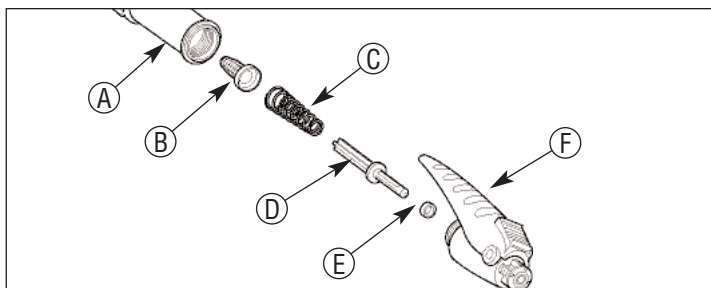

Figure 15. Shut-Off Maintenance (Slide-Lock Style)
1. Unscrew the handle section from the lever section of the shut-off. See Figure 15.